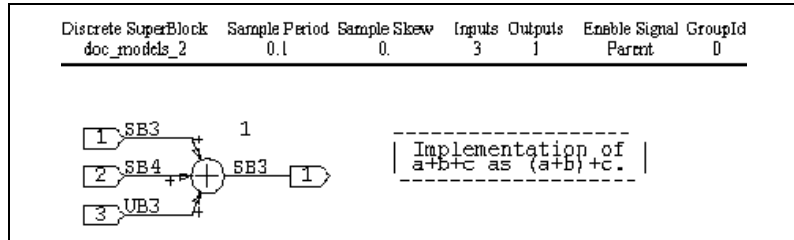

Figure 15-16. Adding Three Operands
To provide a consistent answer to this question, SystemBuild algebraic blocks are organized such that the operation order is the same as the order that the Connection Editor assigns to the input pins. Thus in the Summing block example, the signal connected to input pin (1) is added to the signal connected to pin (2) first, and then the result is summed with the signal that is connected to pin (3). Refer to Figure 15-16. This can have a profound impact on the final operation result as it is possible to enhance the precision or even avoid dealing with overflow as in (1) under Example 15-12 below.
Assume that only one Summer block is used to realize the sum. Then the implementation of the equations above is shown in Figure 15-16.